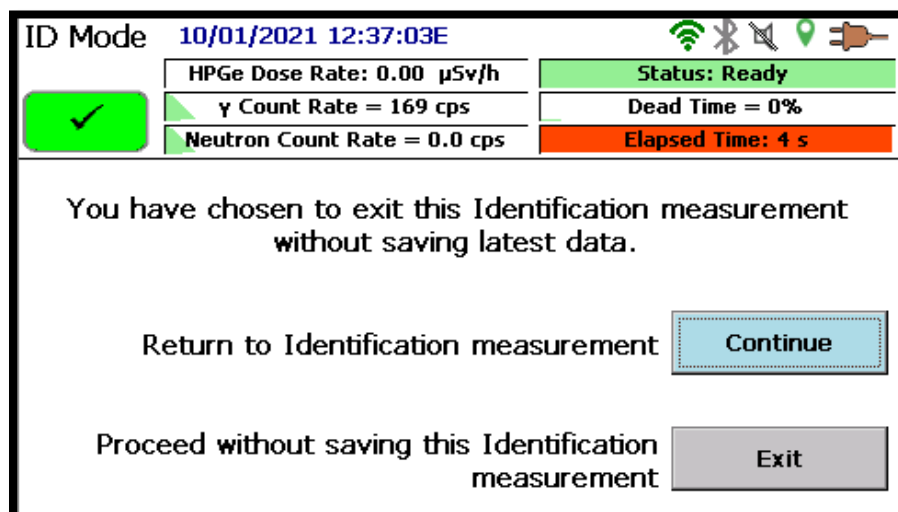

Figure 125. ID Mode Exit Screen
Note that the ID Mode screen uses the same common header as the Monitor Mode screen. The only difference is that instead of displaying the GPS location, the elapsed count time is displayed. If a preset count time has been defined, the elapsed time will display the current time of the preset time (see Figure 125). The background of the elapsed time has a colored green block that increases as the time approaches the total elapsed time. If the count is paused or the preset time is reached, the background color changes to red. If the sound and vibration are activated on the instrument, a buzzer will sound and the instrument will vibrate when the preset time is reached.
- **Exit** – data collection will be concluded, and the screen will change to that seen in Figure 125 with the data not being saved.